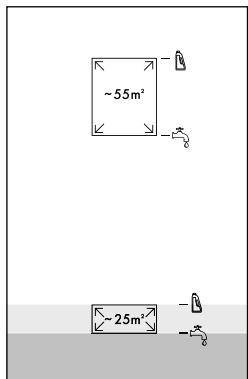

Fig. 8
- ♦ For small areas (up to 25 m2), fill the fresh water tank ⑪ with tap water or distilled water up to the first fill level marking (see fig. 8).
- ♦ For small areas (up to 25 m2), fill the fresh water tank ⑪ with cleaning solution up to the second fill level marking (see fig. 8).